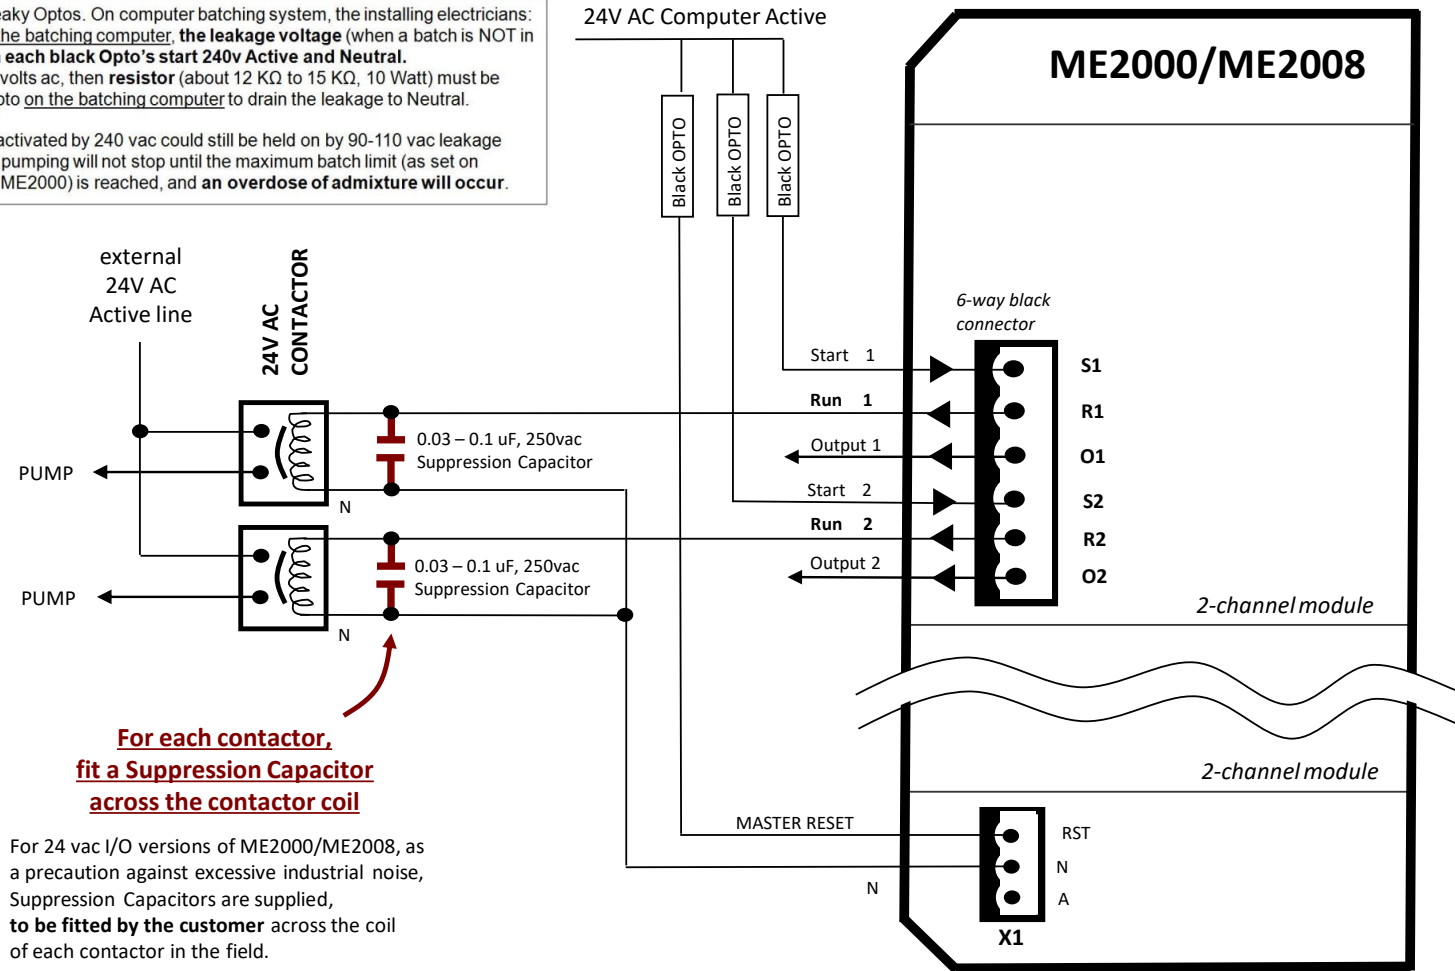

Figure 5. Fitting Suppression Capacitors to prevent electrical noise, and Resistors to prevent voltage leakage.
- Fitting a 0.03 to 0.1 μ F 250vac capacitor on the pump contactor coil (between pump drive of ME2008 and Neutral), helps eliminate any voltage spikes (see Figure 5 on Page 12).
Computer starts have Black Optos which are usually solid state optos. When computer starts, the Optos stay on ("240vac energized") for the duration of the batch cycle and turn off at completion of the batch cycle. When the optos turn off, sometimes a higher than normal residual leakage voltage is maintained e.g. 90 vac (so installers/maintainers must measure, on the batching computer, the leakage voltage, when a batch is NOT in progress, between each black Opto's start 240v Active and Neutral). This voltage is sometimes enough to keep ON relays that drive contactors or solenoid coils. If this occurs, fit a 12k Ω 5W resistor between the Start Drive and Neutral connections (see Figure 5 on Page 12).
2	Sometimes spiking contactor coils in close proximity to ME2008 can cause interference. Fitting 0.01 to 0.03 μ F 250 vac capacitors on the pump contactor coils (between Neutral and the R1 pin of the DCM black X1 plug) helps eliminate spikes (see Figure 5 on Page 12).